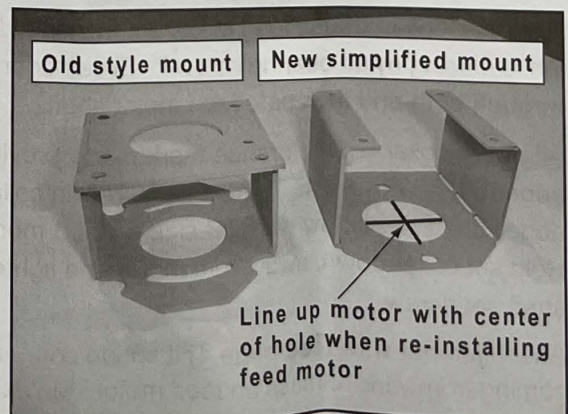

Figure 3
If you have an older mount, replace with new one supplied. **Figure 3.** Skip to Step 6.
- Take care not to drop set collar or nylon bearing as you pull auger from the assembly. Set new motor on mount so shaft lines up with center of bottom hole in mount. **Figure 3, page 1.** Re-secure with screws.